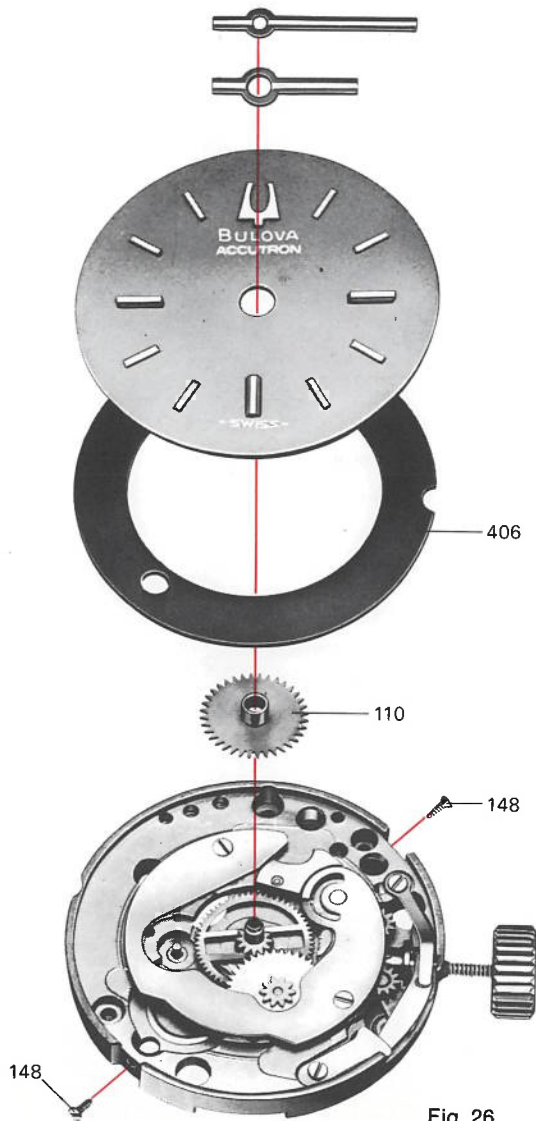

Fig. 26
5. Remove both dial screws (148), dial, hour wheel (110) dial support ring (406) and dial washer (if there is one). (See fig. 26).